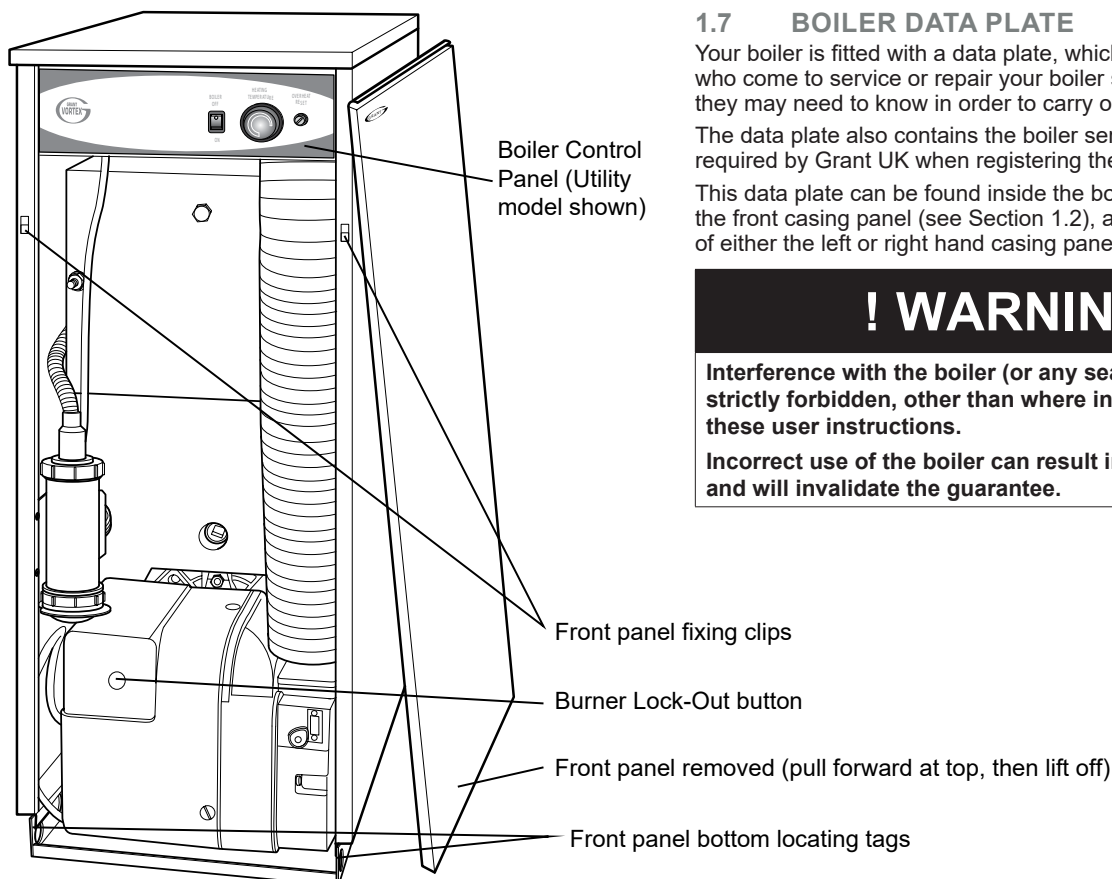
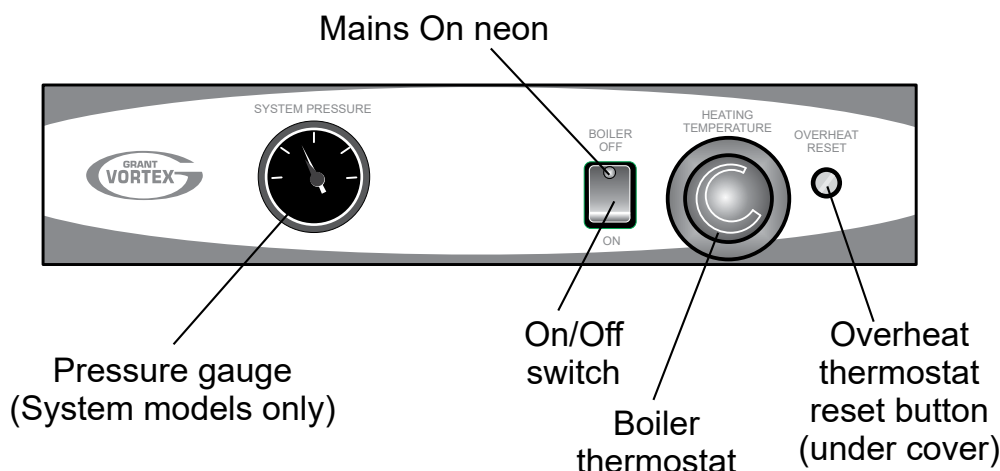

Figure 1-1: Boiler components
Figure 2-1: Vortex Utility boiler control panel
Kitchen/Utility boilers have a 'mains on' neon, see Figure 2-1, which lights when the boiler is switched on.
To gain access to the boiler controls, pull the front panel forward at the top to disengage the fixing clips, then lift it up and off the boiler, as shown in Figure 1-1.
4. Check if the burner 'Lock-Out' reset button on the burner body (refer to Figure 1-1 for location) is lit.
Refer to Figure 1-1 for the location of the control panel within the boiler casing and Figure 2-1 for the details of the control panel.
To reset the overheat thermostat, unscrew the small plastic cap marked "reset" (see Figure 2-1), press the button and replace the cap.